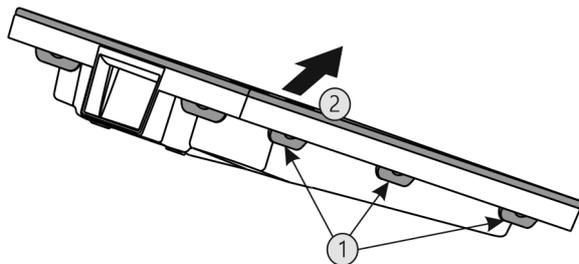

Fig. 82
- ▶ Press all lugs Fig. 82 (1) one after another and remove the cover Fig. 82 (2).